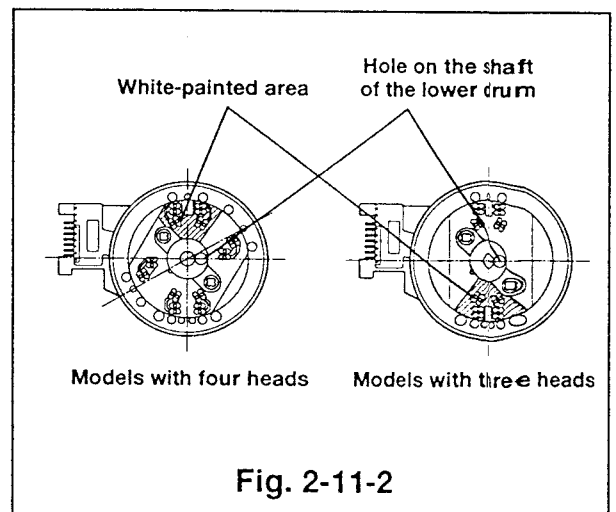

Fig. 2-11-2
- ① Attach the rotary transformer and the drum motor so that the terminals of both face in the same direction, and secure them with the screws (c, d and e). Secure the rotor case with the screws (a) and (b).
- ② Attach the upper drum so that the hole on the lower drum shaft is in the position shown in Fig. 2-11-2, take care not to damage the terminals.